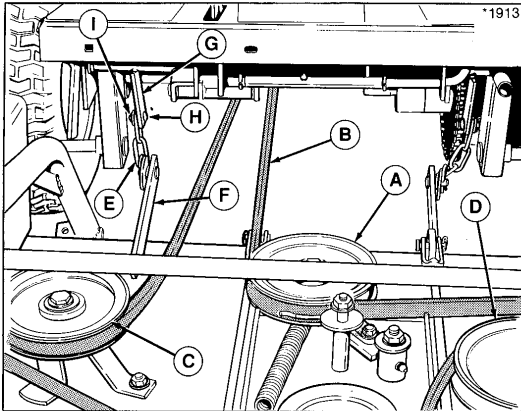

Figure 22. Removing Belt Tension
Use caution when moving spring-loaded idler pulley (A, figure 22). Spring tension is strong. Do not remove belt (B) from spring-loaded idler pulley (A). Remove belt from left and right idler pulleys (C & D).
- To remove chains from rider lift arms, remove cotter pin (I) and washer from weld stud (H). Replace washer and pin on weld stud.
7. Connect chains (top link) to weld stud and secure with washers and cotter pins. Refer to figure 22.
8. Reinstall belt on right hand and left hand idler pulley by pulling on spring-loaded idler pulley. Read warning on page 27. Refer to figure 22.